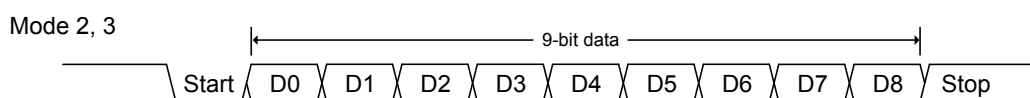

Figure 17-2. Mode 2, 3 Data Frame
- Mode 2:** 11 bits are transmitted through TXD0 or received through RXD0. The frame data includes a start bit (0), 8 data bits (LSB first), a programmable 9th data bit, and a stop bit (1), as shown in Figure 17-2. On Transmit, the 9th data bit comes from TB80 in S0CON register can be assigned the value of 0 or 1. On receive, the 9th data bit would be loaded into RB80 in S0CON register, while the stop bit is ignored. The baud rate can be configured to 1/32 or 1/64 the system clock frequency.
Figure 17-2 shows the data frame in Mode 2 and Mode 3. Figure 17-5 shows a functional diagram of the serial port in Mode 2 and Mode 3. The receive portion is exactly the same as in Mode 1. The transmit portion differs from Mode 1 only in the 9th bit of the transmit shift register.
The “write to S0BUF” signal requests the Serial Port 0 Controller to load TB80 into the 9th bit position of the transmit shift register and starts the transmission. After receiving a transmission request, the UART0 engine would start the transmission at the rising edge of TX Clock. The data in the S0BUF would be serial output on the TXD0 pin with the data frame as shown in Figure 17-2 and data width depend on TX Clock. After the end of 9th data transmission, TI0 would be asserted by hardware to indicate the end of data transmission and its interrupt vector can be switched to System Flag interrupt by BTI and UTIE gated.